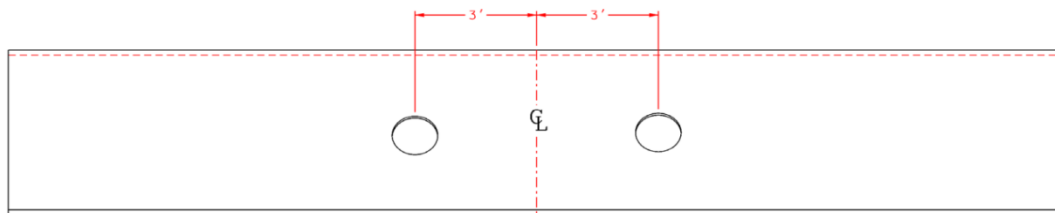
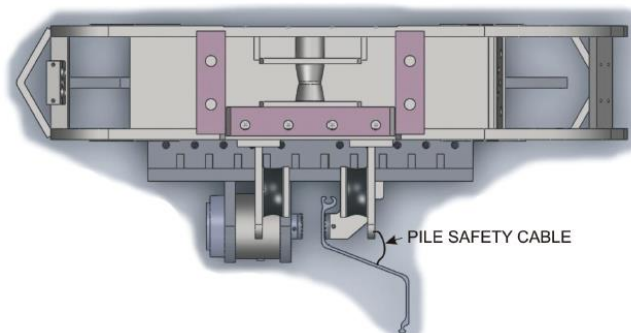

FIGURE 1
FIGURE 2
1. First, check that the lifting capacity of the excavator, at the working radius, exceeds the combined weight of the V-4ESC assembly and the pile. Then, lift the pile using an appropriately sized cable between the lifting point on the Rototilt assembly and the lifting hole in the pile. (Refer to figures 1 and 2). Once the pile is hanging nearly vertical, guide it into the hammer jaws or thread the pile into an already driven pile. Position the jaws on the pile (see figure 2) and close the jaws and start the hammer. The vibration, coupled with the down crowd force of the excavator drives the pile. Do not exceed the down crowd force rating.
2. Cut pile handling holes 2ft. or more above center of the pile on either side of center as required to position pile in jaws as shown in figure 1.
⚠ DANGER Appropriate pile lifting rigging should be supplied by the end user to handle the pile in a safe manner. Attach cable(s) to lifting eye(s) on the hammer to allow safe handling of the pile and placing it in the jaws as shown in figure 2.